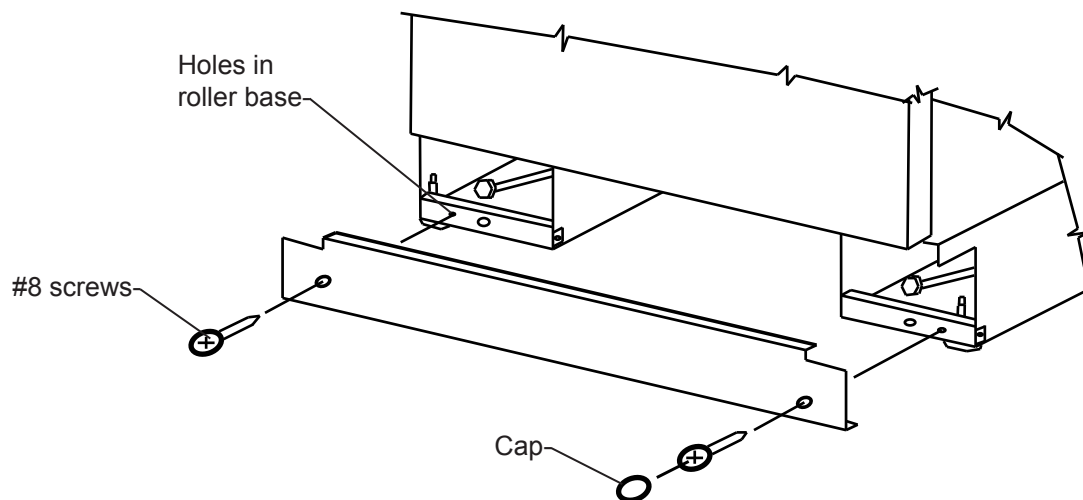

Figure 34
Use two (2) #8 sheet metal screws (supplied) to facilitate holding your kick plate in place. Mount screws in holes in roller base. Cover screw heads with caps supplied. (See Figure 34).